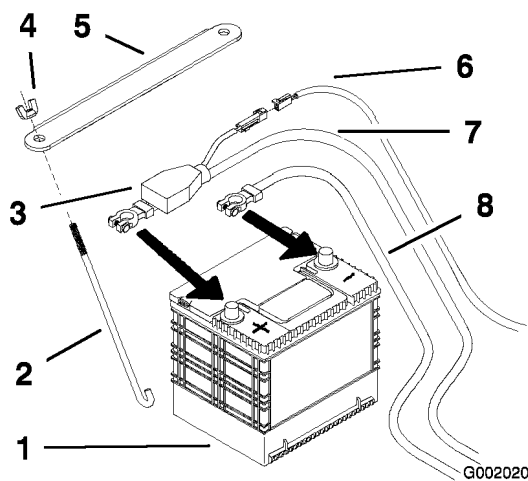

Figure 50
4. First disconnect the negative battery cable from the negative (-) battery terminal (Figure 50).
5. Slide the red terminal boot off the positive (red) battery terminal. Then remove the positive (red) battery cable (Figure 50).
1. Position battery in the tray with the terminal posts opposite from the hydraulic tank (Figure 50).
4. Secure the cables with 2 bolts (1/4 x 3/4 inch), 2 washers (1/4 inch), and 2 locknuts (1/4 inch) (Figure 50).
6. Secure the battery with J-bolts, hold down clamp, 2 washers (1/4 inch), and 2 wing nuts (1/4 inch) (Figure 50).